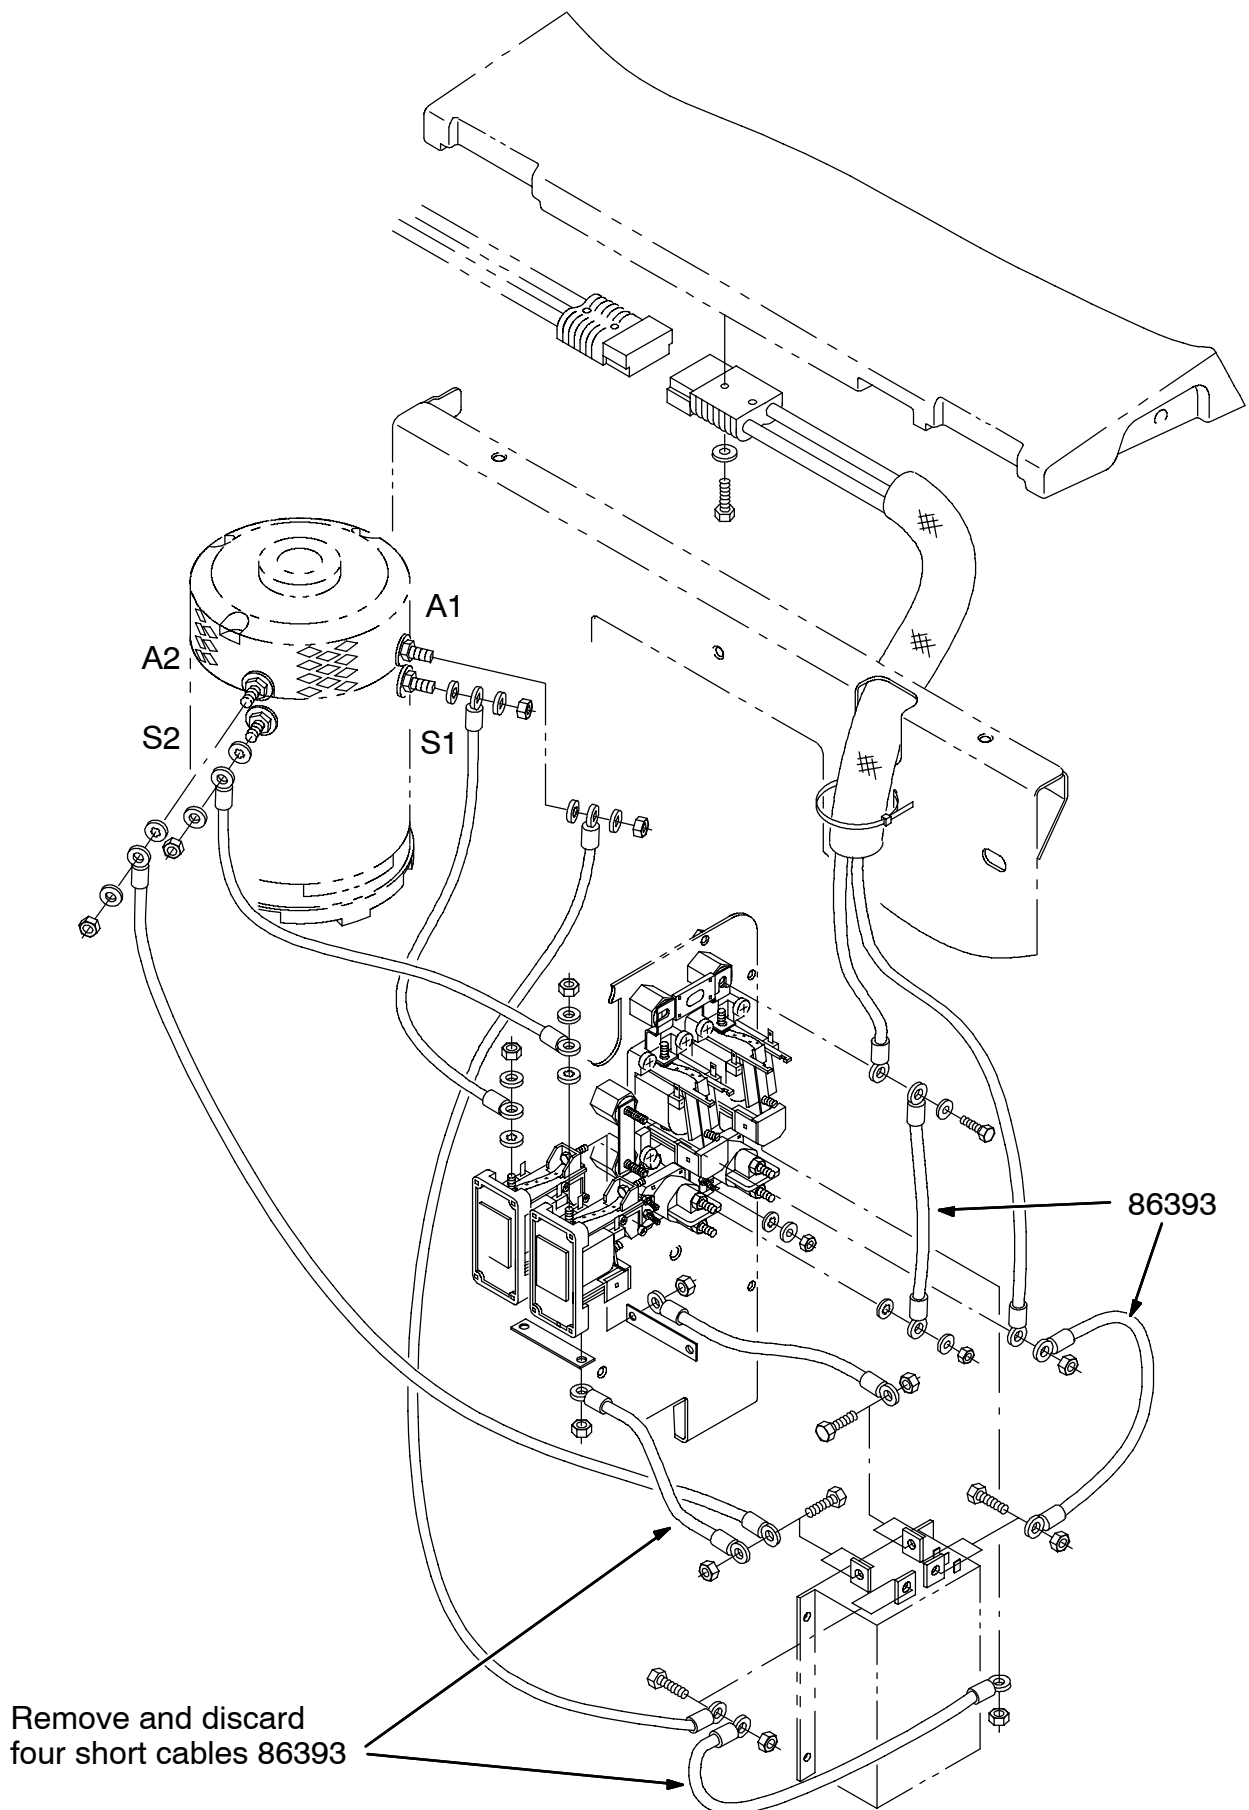

FIG. 2 - Cable Removal
3. Disconnect and remove the four short cables 86393 from the controller and contactors. They will later be replaced by larger capacity cables. (Refer to FIG. 2)